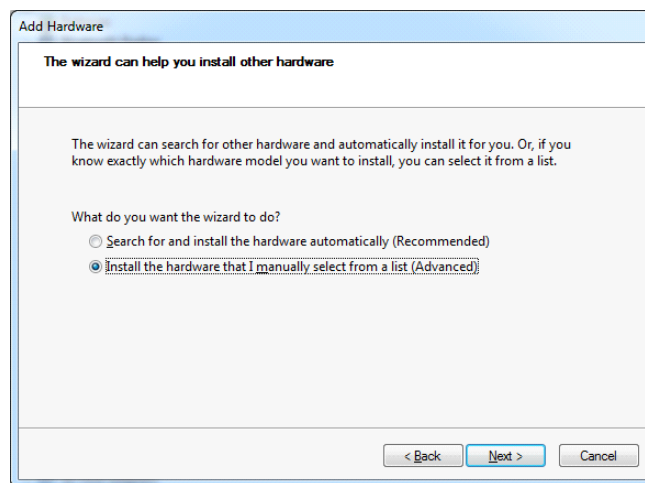

Figure 32 Confirming Hardware Connection
3. The second screen asks if you have already connected the hardware to your computer. Select “Yes” (Figure 32) and then click “Next”.